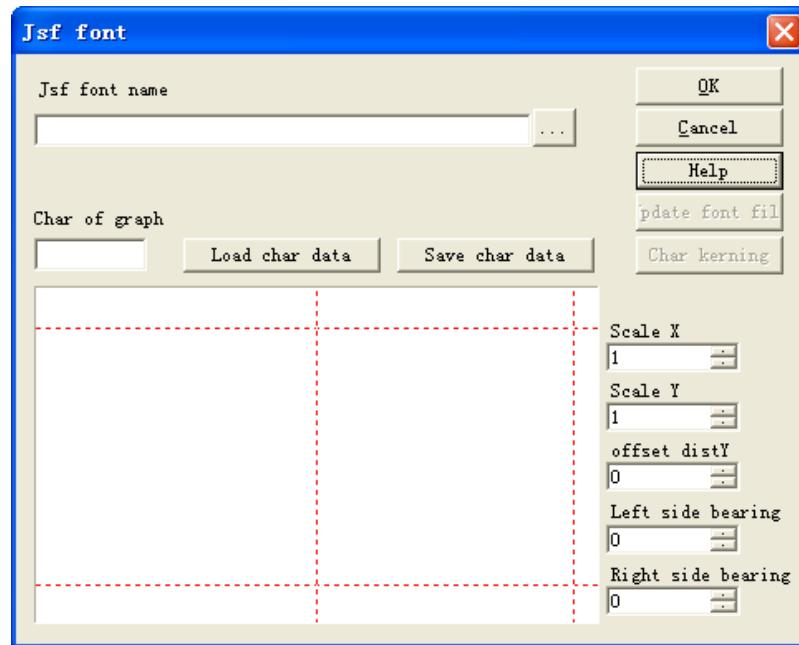

Fig 5-17 JSF font
When the user click JSF font, system will show a dialogue as figure 5-17.
Click "Modify" "JSF Fonts", then shown a font dialogue box as figure 5-17. Click button ..., and find FiberScanC3LT\font catalogue in the dialogue, input "EZCAD0521", and then click the button to indicate dialogue as the follow figure 5-23 .
1. Click "JSF fonts" under "modify" menu, then shown the JSF font dialogue, as the figure 5-17->Click , open the dialogue to find the route: FiberScanC3LT\font->\Input "EZCAD0521"--□ Click the button.